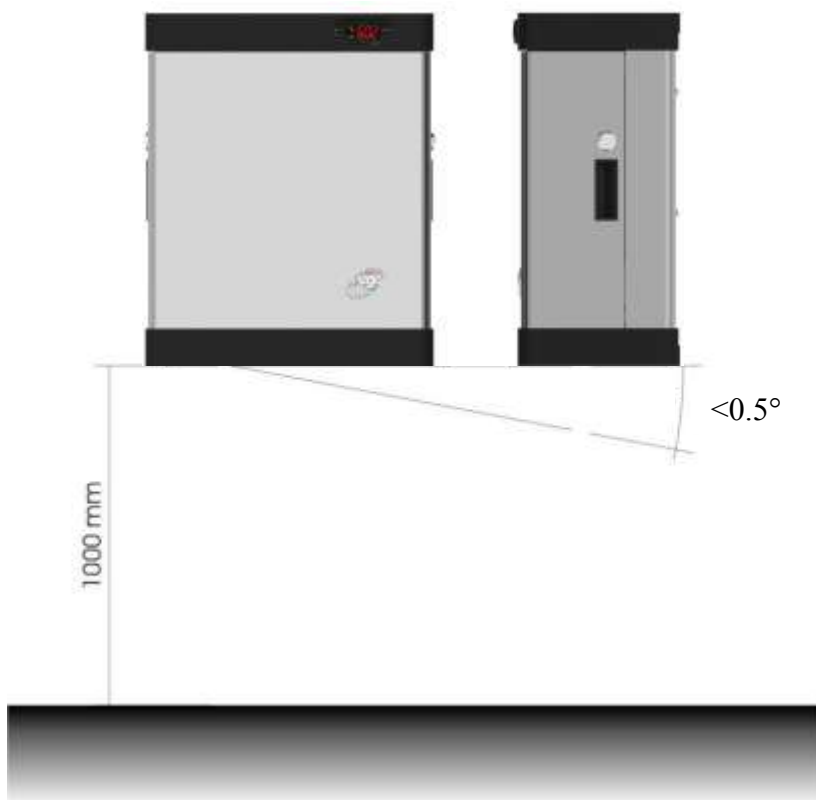
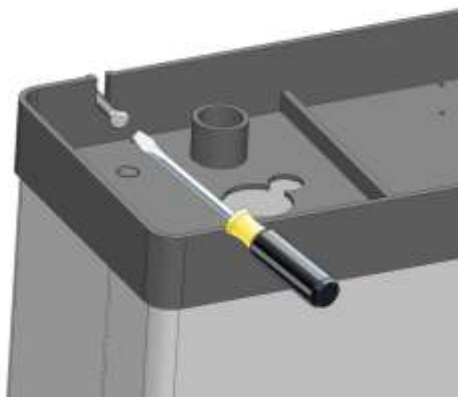

Fig. 1
Fig. 2
2. Wall-mount the humidifier, possibly levelled and 1 metre from the ground (fig. 1), using the 4 slots on the rear part for insertion of the fixing screws (fig. 2 and 3).